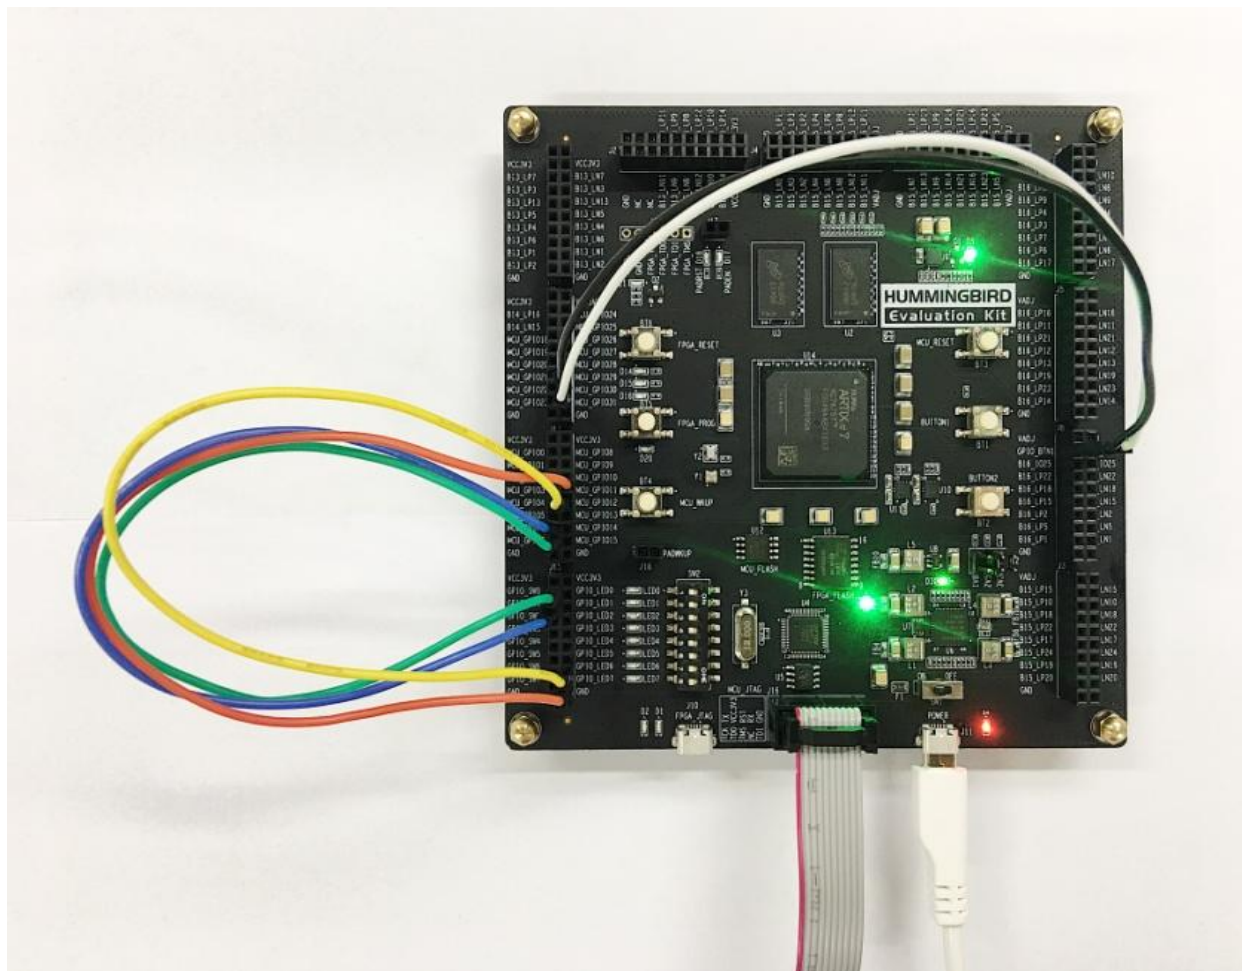

Figure 3-3 Example of using other board resource to control SoC pins
- As in the example of Figure 3-3, SW0 and SW1 are connected to MCU_GPIO6 and MCU_GPIO7 respectively.
- As in the example of Figure 3-3, MCU_GPIO6 and MCU_GPIO7 are connected to LED6 and LED7 respectively.
- As in the example of Figure 3-3, Button 1 and Button 2 are connected to MCU_GPIO30 and MCU_GPIO31 respectively.